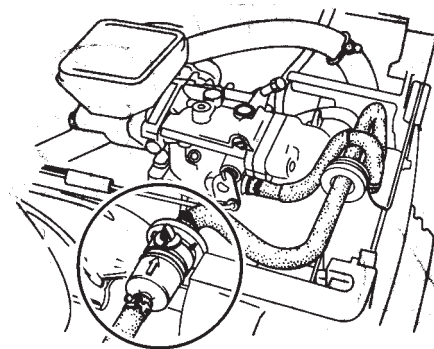

Figure 16. Fuel Filter
- Replace the engine fuel filter (Figure 16) every 200 hours.